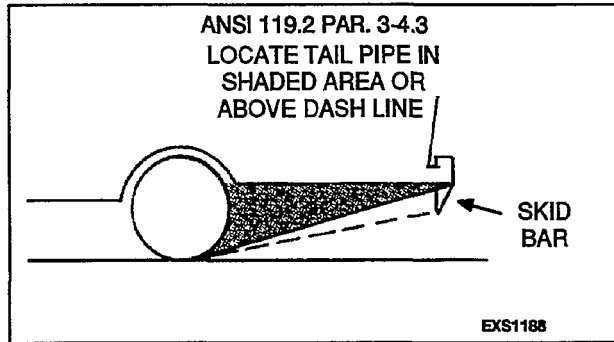

FIGURE 3-16. TAIL PIPE PROTECTION
4. Termination of the exhaust tail pipe below the angle of departure (lowest point on rear of vehicle to the tire ground contact point) must be protected by a skid bar, trailer hitch, or some frame member (Figure 3-16).